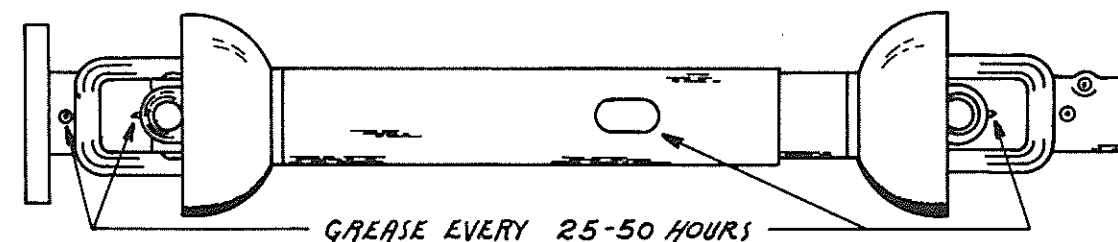

FIG. 1
The universal drive shaft should be lubricated with a good grade of Lithium Soap Base Grease every 25 to 50 hours of operation. There are four (4) grease fittings to grease as shown in Figure 1.